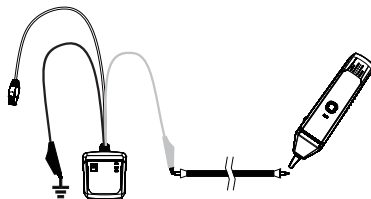

Figure 2. Tracing cables
6.Tracing cables (see Figure 2)